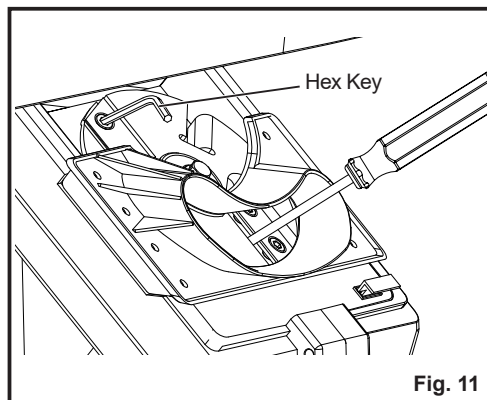

Fig. 11
- Use the hex key supplied to loosen and remove the 2 inner hexagonal headed bolts. Please note the position of the cutting angle of the blade (Fig. 11).